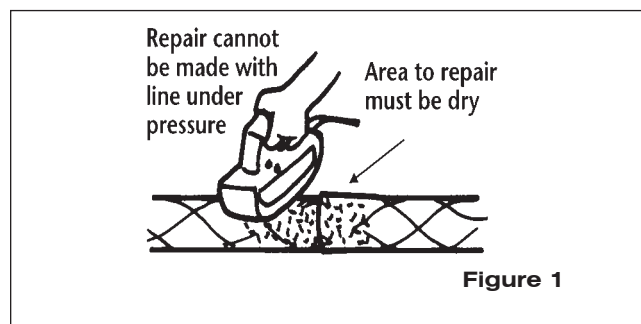

Figure 1
1. Use a grinder or sander with coarse sandpaper (40 grit or less) to remove gloss five inches on either side of the joint (see Fig. 1).